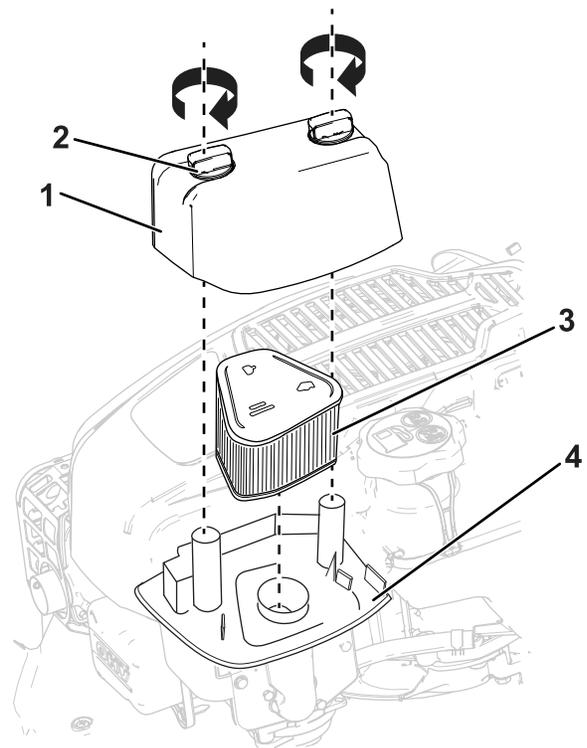

Figure 27
1. Loosen the fasteners and remove the air-filter cover (Figure 27).